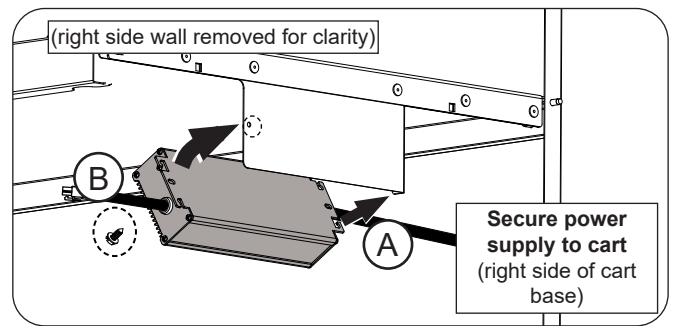

Fig. 10-1 Mount power supply
1. Insert the tabs of the power supply into the slots on the cabinet side wall flange (Fig. 10-1, A). Use the provided screw with a flathead screwdriver or $\frac{5}{16}$ " hex nut driver to secure the power supply into place. See Fig. 10-1, B.